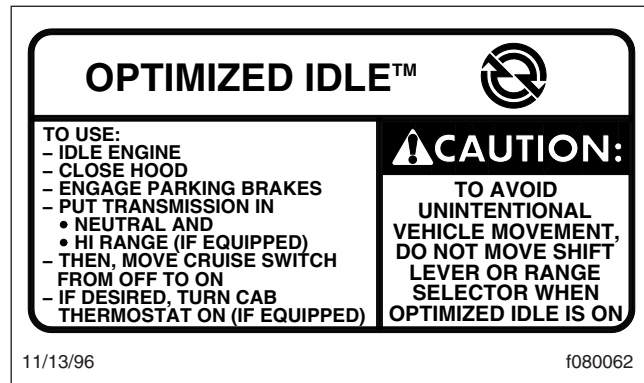
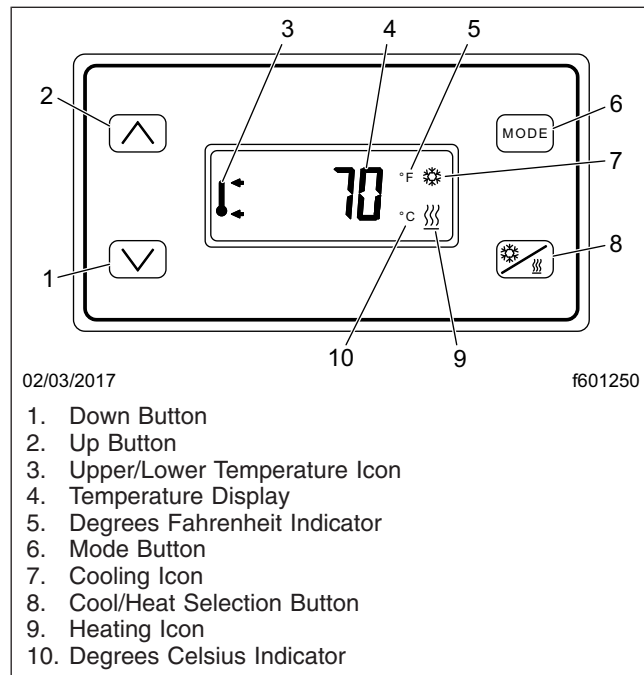

Fig. 10.6, Optimized Idle Dash Label
Fig. 10.7, Optimized Idle Thermostat
Vehicles equipped with Optimized Idle have a label on the dash, and a telltale lens in the dash message center. See Fig. 10.6 for the dash label detail. See Chapter 4 for the appropriate dash message center. If equipped with the thermostat mode, a thermostat is located in the sleeper, above the bunk. See Fig. 10.7.
2.2 Turn on the thermostat by touching any of the four buttons. See Fig. 10.7.